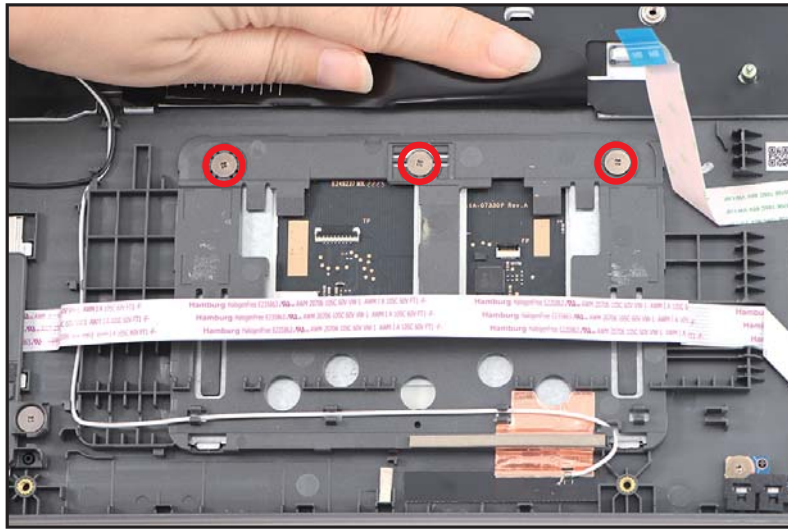

Figure 1-47. Touchpad Module Removal
4. Remove three (3) screws securing the touchpad module (Figure 1-47).